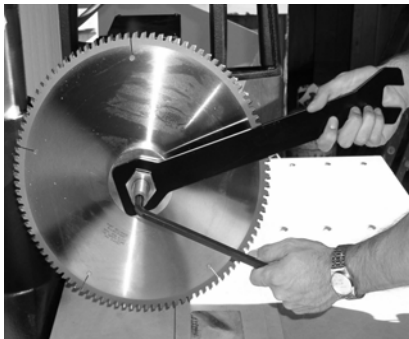

FIGURE 1
3. Place the arbor collar, recessed sides against the blade, arbor nut and tighten securely. (See figure 1)